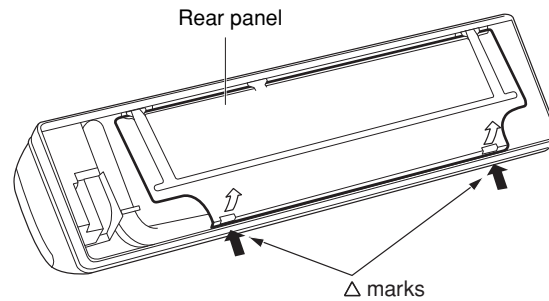

Fig. 7a
- (2) Press the 2 Δ marks on the frame cover and disengage the stationary tabs from the frame. (Fig. 7a)